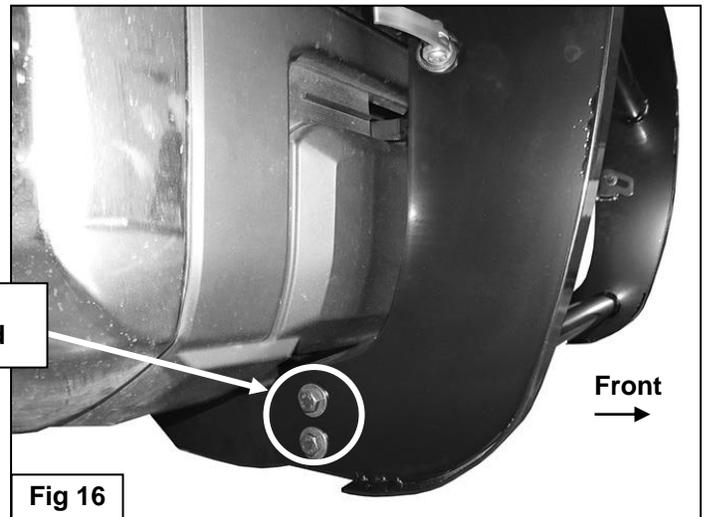

Fig 16
18. Release/loosen the levers on the Quick Release Bolts, **(Figure 13)**, and pull the Grille Guard away from the vehicle to the "open" position, **(Figure 15)**. **NOTE:** It may be necessary to slightly loosen the top (2) 12mm Hex Bolts on the Frame Mounting Brackets to move the Grille Guard, **(Figure 16)**. Center and level the Grille Guard and tighten all hardware including the Frame Mounting Brackets.
20. Slowly close the hood and check for clearance. Release both Quick Release bolts. Push the Grille Guard into the "closed" position. If needed, loosen the upper bolt on each Frame Mounting Bracket, **(Figure 16)**. **WARNING!** Do not completely loosen bolts or damage to the truck or Grille Guard may occur.
24. Lift the levers on the Quick Release bolts to release the clamping pressure, **(Figure 14)**. Pull the Grille Guard out and away from the vehicle to the "open" position, **(Figure 15)**. **NOTE:** If the Grille Guard does not pivot to "open" position, **slightly loosen the 12mm upper hex bolt on each Mounting Bracket, (Figure 16)**. **WARNING!** Do not completely loosen bolts or damage to the truck may occur.